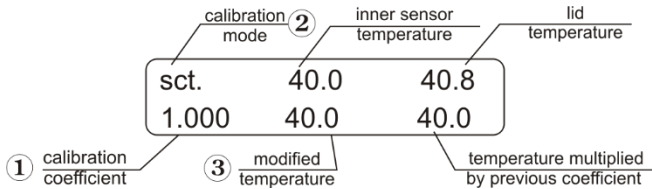

Fig.2 Control panel in calibration mode
- 5.2. To enter the calibration coefficient, hold the **TIME RUN/STOP** key (fig. 1/5) pressed for more than 8 s to activate calibration mode. The calibration coefficient will be shown on the display (fig. 2/1).
- 5.3. **Restoring factory settings.** Set 1.000 value using the ▲ and ▼ T°C keys (fig. 1/3) as shown on Fig. 2/1 to restore the factory settings. Press the **RPM RUN/STOP** key (fig. 1/4) once to save the changes and exit the calibration mode.
- 5.4.5. Hold **TIME RUN/STOP** key (fig. 1/5) pressed for more than 8 s to activate calibration mode. The following parameters will be shown on the display (fig. 2).